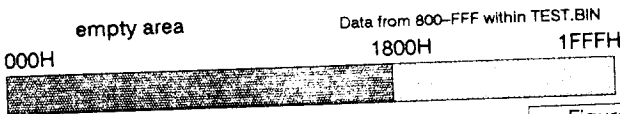

Figure 9.1
ROMX-2XL stops emulating first (TS) then ROMX looks for a file called TEST.BIN on the disk, and when found start sending from relative offset 800H (%) from within TEST.BIN to locations 1800 to 1FFFFH within the eeprom size selected. When upload is complete, emulation begins again (TE). See Figure 9.1. A warning is issued if you happen to reach the end of the binary file before the specified number of bytes (@) are read ($7FF - 0 + 1 = 800h$ bytes).